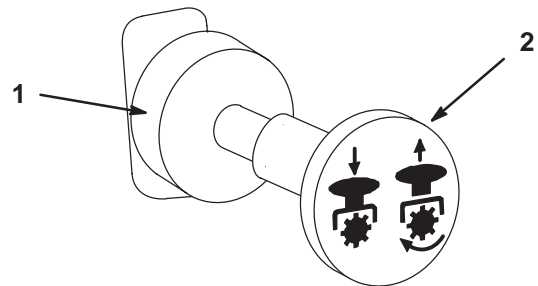

Figure 20
- Pull out on the power take off (PTO) switch to engage (Fig. 20).
- To disengage push the PTO switch to the off position (Fig. 20).